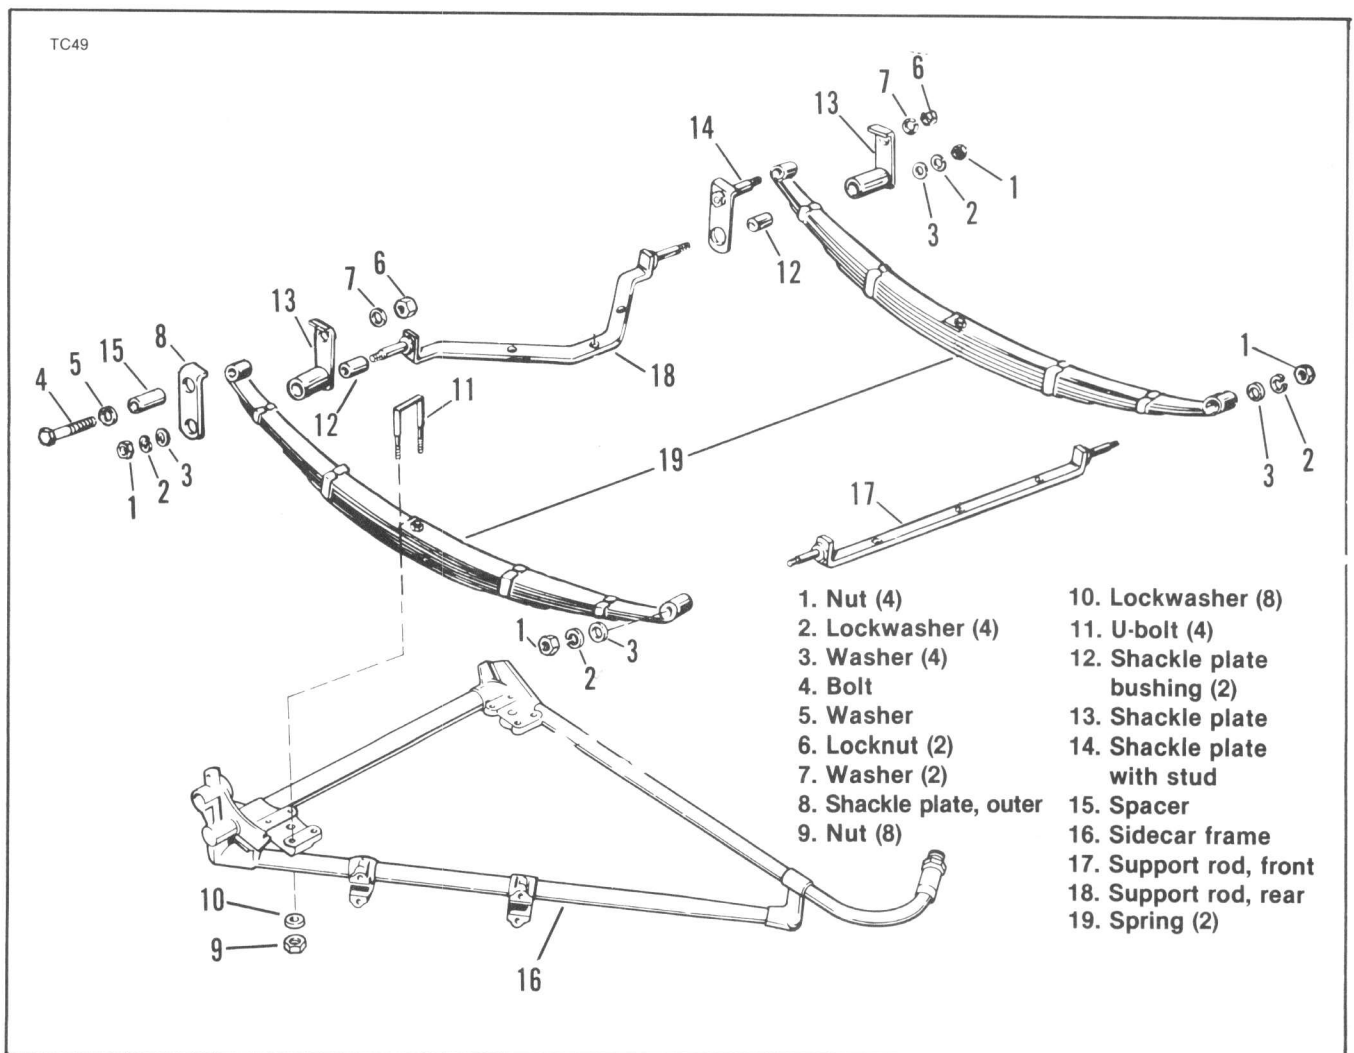

Figure 3-8. Removing Sidecar Springs
1. See Figure 3-8. Remove nut (1), lockwasher (2) and washer (3) from front spring end.
2. Remove bolt (4), washer (5), nut (6), and washer (7) from rear spring end.
3. Remove directional light and nut (1), lockwasher (2) and washer (3).
4. Remove shackle plate (8).
5. Remove nuts (9), lockwashers (10) and U-bolts (11) that attach spring to sidecar frame.